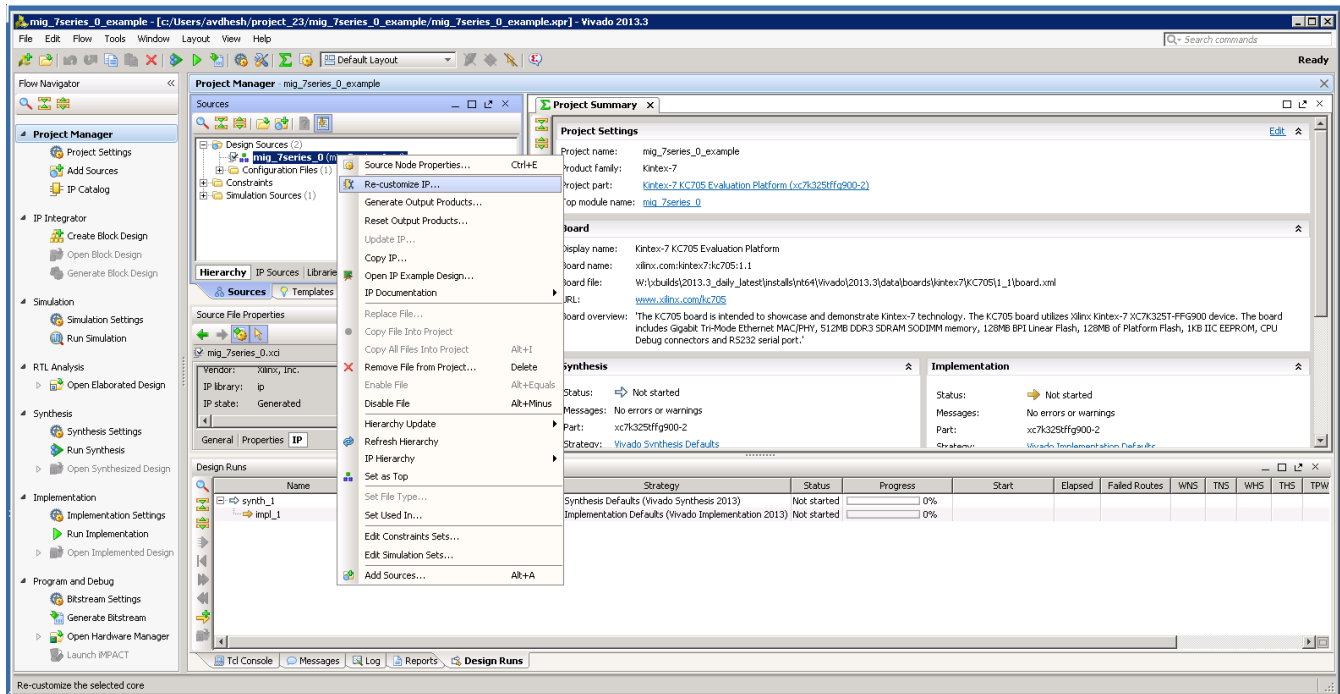

Figure 4-36: Recustomize IP
- Recustomization of the MIG IP can be done by using the **Recustomize IP** option. It is not recommended to recustomize the IP in the `example_design` project. The correct solution is to close the `example_design` project, go back to original project and customize there. Right-click the XCI file and click **Recustomize IP** (Figure 4-36) to open the MIG GUI and regenerate the design with the preferred options.